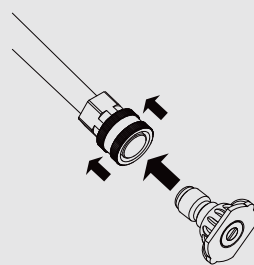

Fig 11
3. Pull back on the spray wand quick connect collar and insert the desired spray tip and release the collar. Tug on the spray tip to ensure it is firmly secure. Fig 11